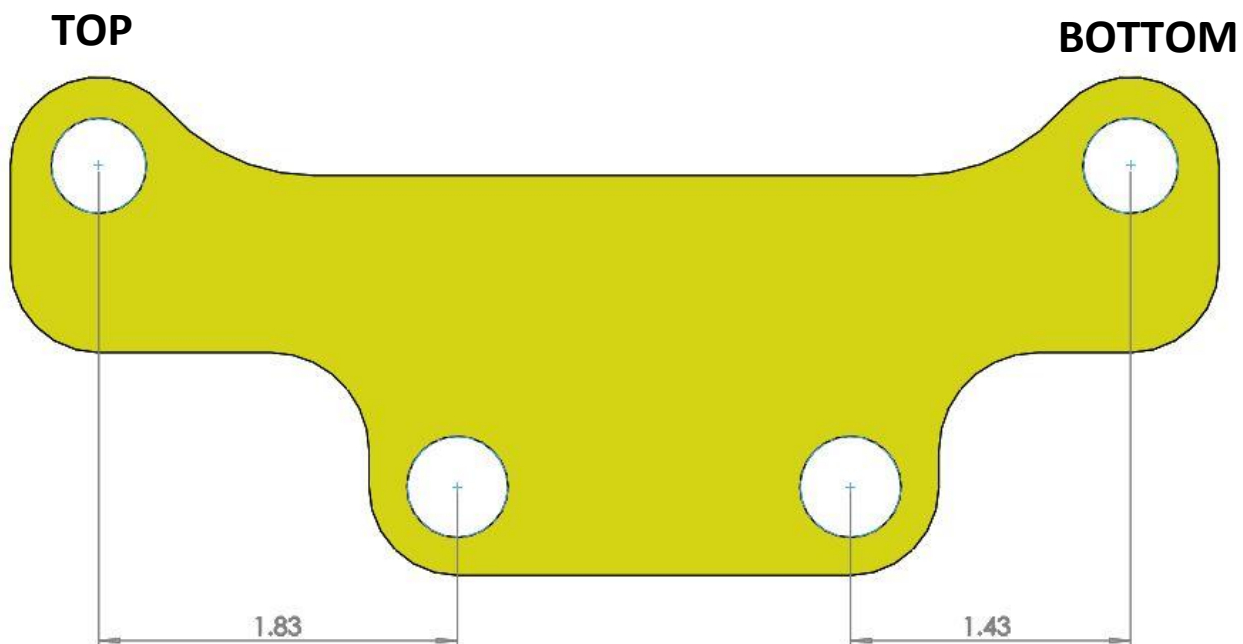

Figure 2 – Determining Top and Bottom for Intermediate Caliper Mounting Bracket
5. Next, install the Intermediate Caliper Mounting Bracket onto the Primary Caliper Mounting Bracket. The intermediate caliper bracket installs to the rear of the primary bracket with the provided bushing spacers installed between the primary and intermediate brackets. Use two 1/2"-20 x 2 3/4" Grade 8 Hex Head Bolts along with flatwashers and nuts. **IMPORTANT:** The intermediate bracket has a top and a bottom. To assemble, install the bracket so the long side installs to the top. Refer to Figures 2 and 3 for additional information on how to install. Do not torque these bolts at this time as they will be removed later for shim installation.